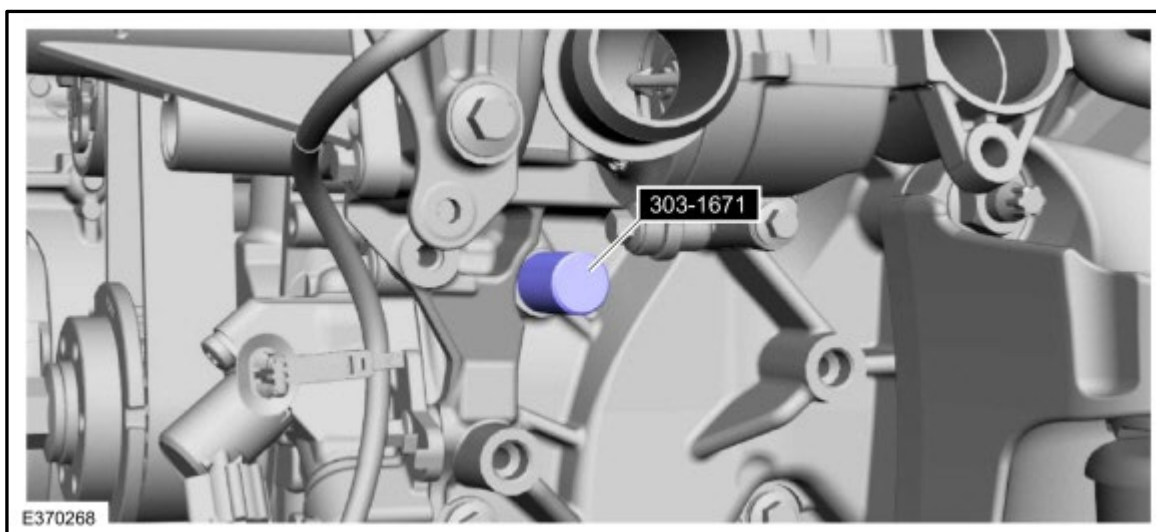

Figure 24
- S. **NOTE: The Locking Crankshaft Pin must be bottomed out against the cylinder block.** Figure 24